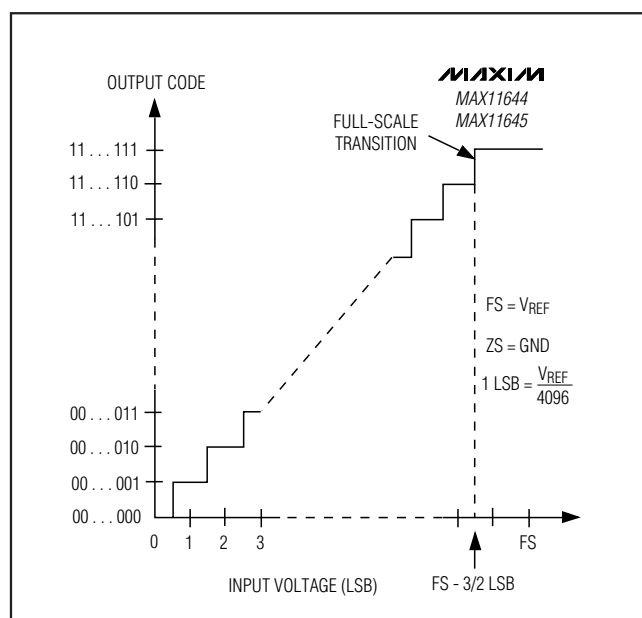

Figure 12. Unipolar Transfer Function
Output data coding for the MAX11644/MAX11645 is binary in unipolar mode and two's complement in bipolar mode with 1 LSB = $(V_{REF}/2^N)$ where N is the number of bits (12). Code transitions occur halfway between successive-integer LSB values. Figures 12 and 13 show the input/output (I/O) transfer functions for unipolar and bipolar operations, respectively.